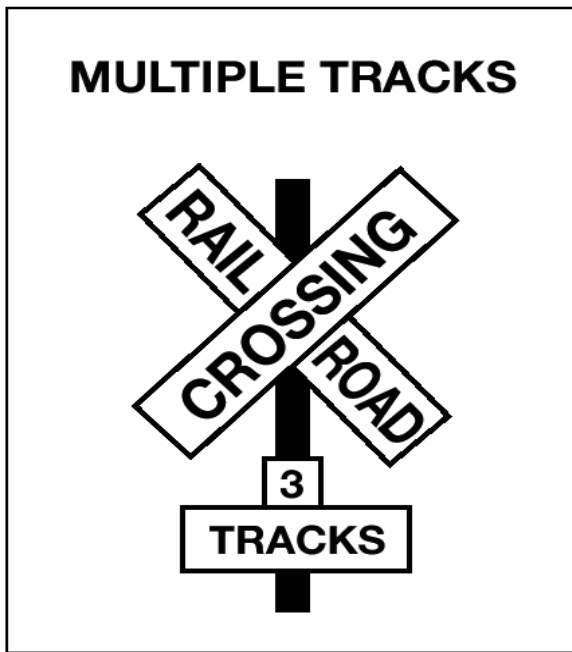

Figure 10.7
**Crossbuck Signs** - This sign marks the crossing. It requires you to yield the right-of-way to the train. If there is no white line painted on the pavement, you must stop the bus before the crossbuck sign. When the road crosses over more than one set of tracks, a sign below the crossbuck indicates the number of tracks. See Figure 10.7.